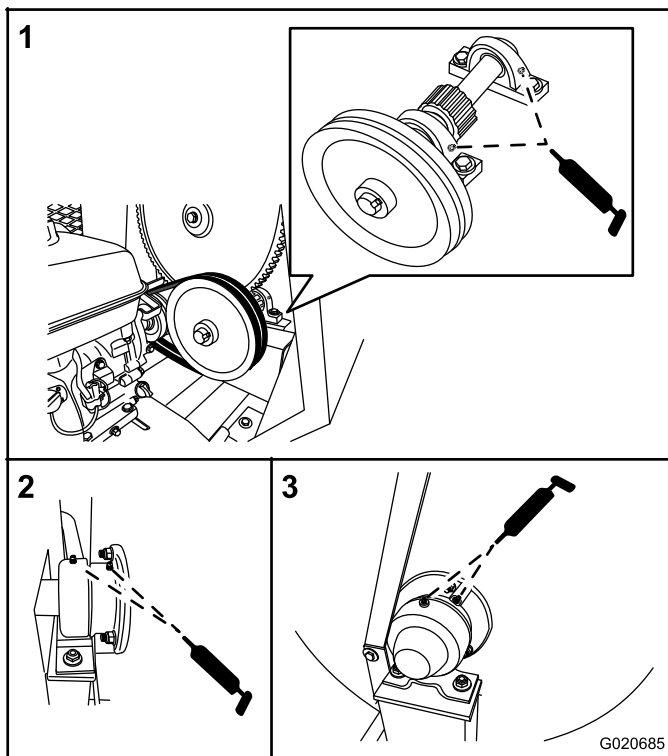

Figure 39
1. Clean around each grease fitting with a rag and lift the plastic cap off the grease fitting (Figure 39).
- For the pillow-block bearings, pump 1 shot of grease into each fitting (Figure 39).
- For the trunnions, pump several shots of grease into each fitting until it starts to ooze out of the bearing housing (Figure 39).